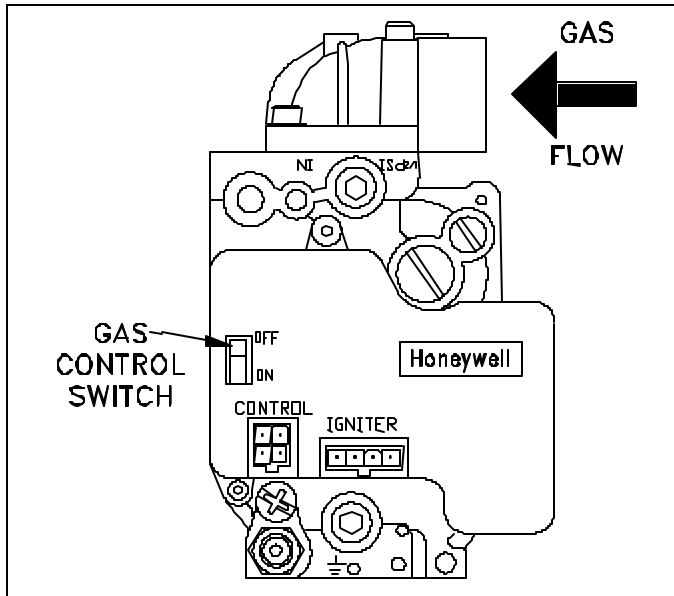

Figure 2. Furnace Gas Control.
5. Turn the switch on the furnace gas control to "OFF". See Figure 2.
6. Turn the switch on the furnace gas control to "OFF". See Figure 2.
7. Wait five (5) minutes to clear out any gas. Then smell for gas, including near the floor. If you smell gas, STOP! Follow above instructions: "What To Do If You Smell Gas." If you do not smell gas, go to the next step.